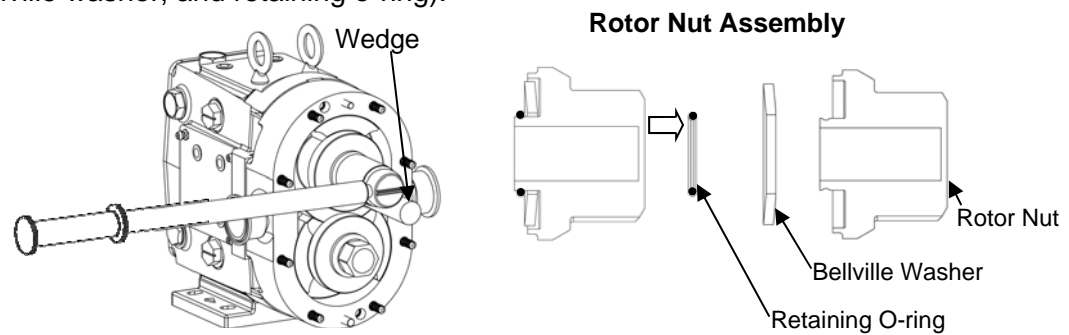

Figure 24: Rotor Removal
2) Loosen each rotor nut using the appropriate size wrench and a non-metallic wedge to keep the rotors from moving (Figure 24). Unthread each nut and disassemble the nut assembly (rotor nut, Bellville washer, and retaining o-ring).